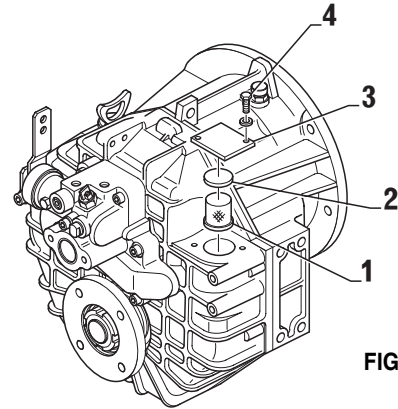

FIG. 7-1a
- Place filter element (item 1 Fig. 7-1a) and seal (item 2 Fig. 7-1a) onto the transmission.
- Place filter cover (item 3 Fig. 7-1a) and lock it to the transmission by screwing in bolts (item 4 Fig. 7-1a). Tightening torque: 18 Nm (14 ft.lb.).